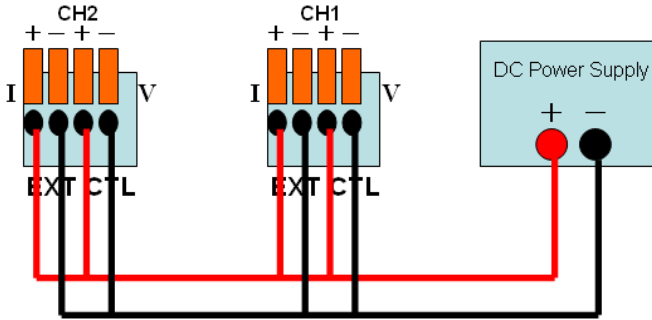

Figure 38- Dual Channel External Analog Voltage Input Calibration Setup
- To begin calibration with the external resistor, remove the DC source and connect the precision resistor to the control card, as shown in Figure 38(right) below.
- Once finished, **CH1 EXT. CURR Res** will be selected. Connect the precision resistor as shown in Figure 38(left). Press **Enter** to proceed with the calibration.